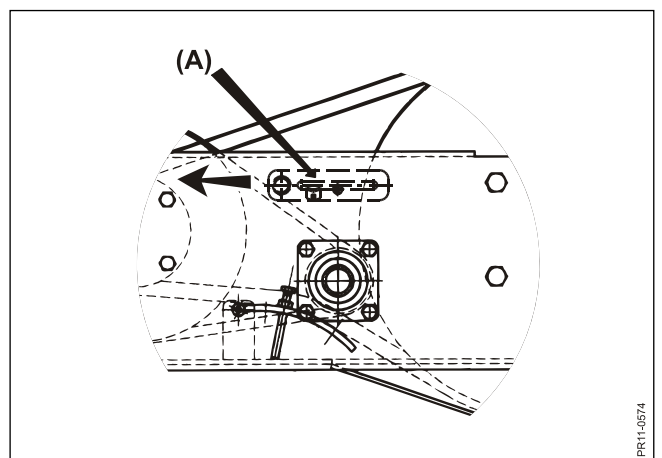

Fig. 9.6
- Fig. 9.6** Tightening of 3/4" duplex chain: chain tightener (A) is loosened and pushed towards the chain, after which it is retightened.